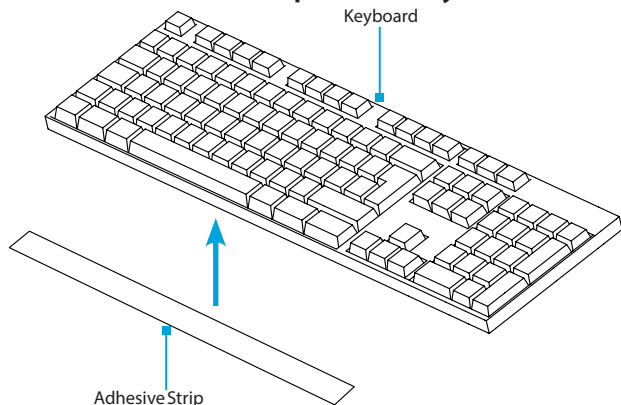

Figure 12
3. Insert the **M6 x 12 mm Screws** through the **Assembly Holes**, located in the **Keyboard Tray**, and into the **Column** and tighten, using the **5 mm Hex Key**. (Figure 12)
4. Remove the **Plastic Backing** from the second **Adhesive Strip** and stick it to the surface of the **Keyboard Tray** so that it is aligned with the strip located on the **Keyboard**. (Figure 12)